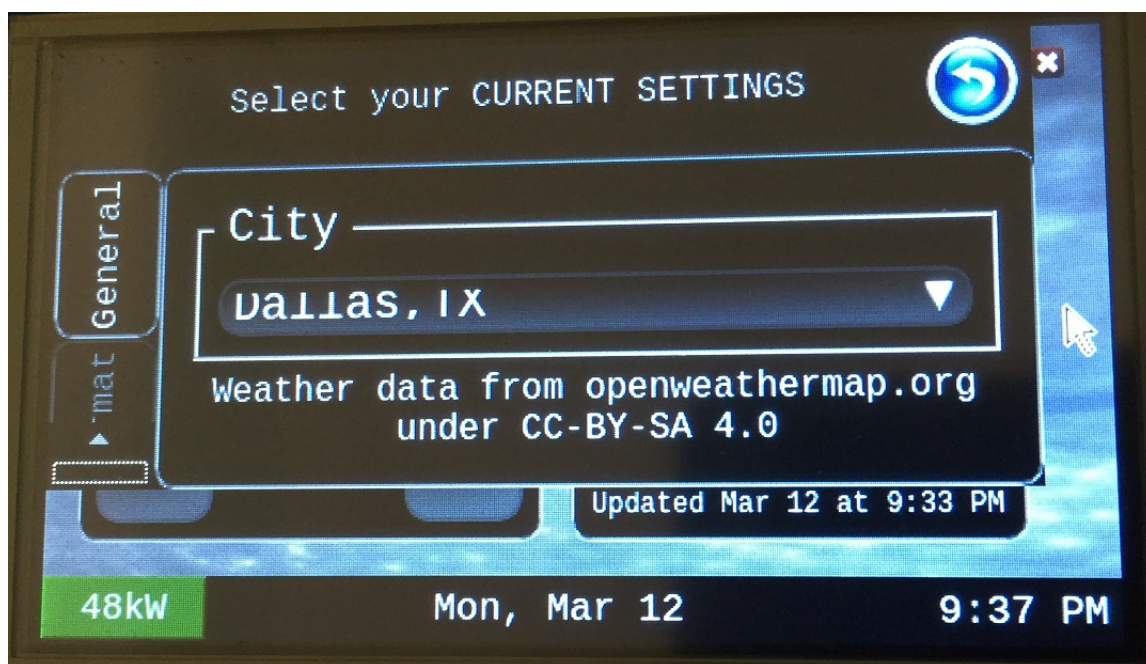
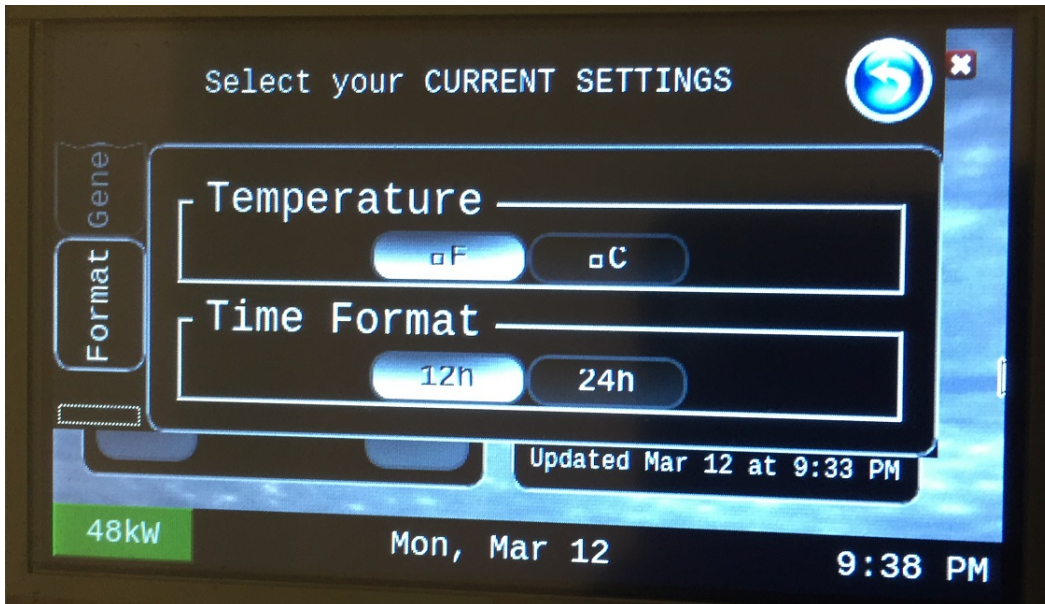
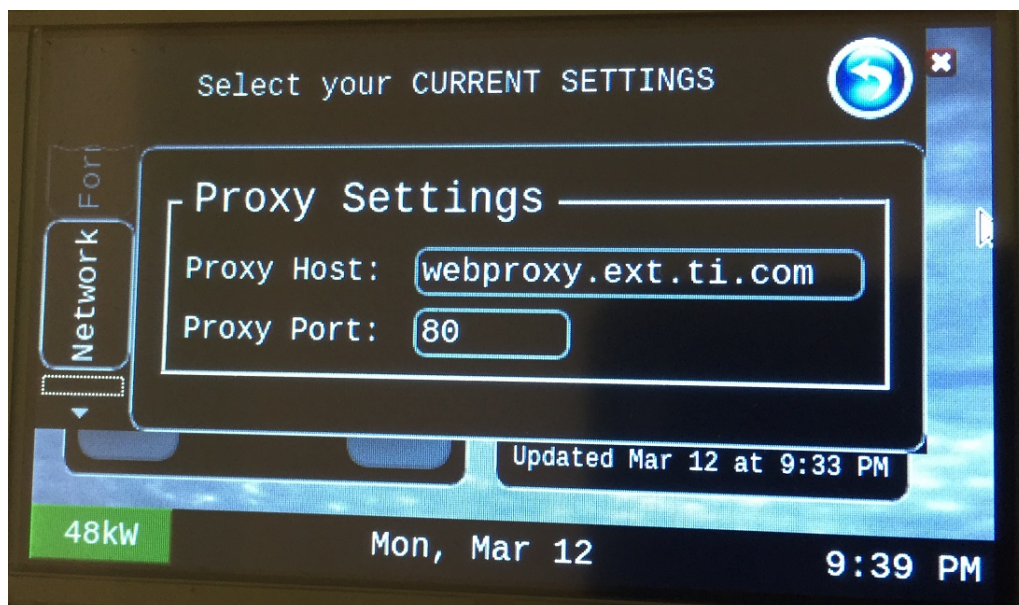

图 12. Smart Thermostat Demo GUI: City Select Screen
图 13. Smart Thermostat Demo GUI: Temperature and Time Format Setting Screen
图 14. Smart Thermostat Demo GUI: Network Proxy Setting Screen
7. The Click to Settings icon in 图 9 leads to the city select screen shown in 图 12.
8. The Format option in 图 12 leads to the temperature and time format select screen shown in 图 13.
9. The Network option in 图 12 leads to the proxy settings screen shown in 图 14.